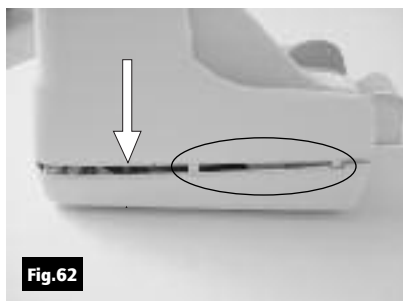

Fig.62
6. Insert the two teeth located on each side of the outer cover in the bottom cover and lock it see Fig.62 and 63.